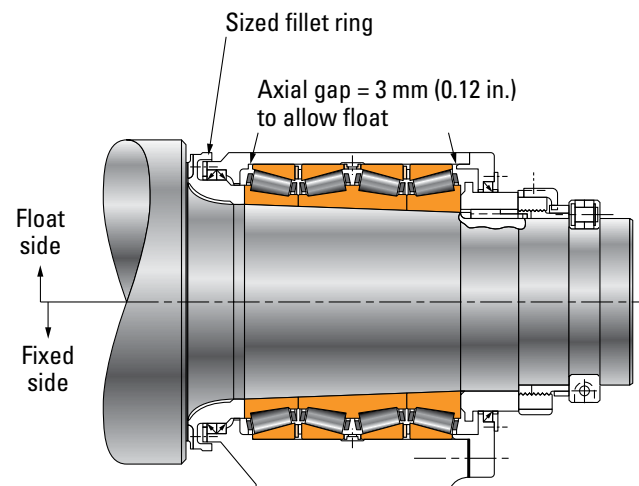

Fig. 88. TQITS bearing arrangement.
3. **Fixed and float positions:** The cups of the TQITS assembly are only clamped on the fixed position of the mill (normally the operator side). On the floating side (fig. 88), the cups are permitted to float axially in the chock bore. Suggested axial gap between cup faces and adjacent chock shoulder/cover face is 3 mm (0.120 in.) on each side. The float side is not only permitted to float through the cups within the chock bore, but also through the chocks in the mill housing's window. This arrangement permits free expansion and contraction of the roll caused by variation in roll temperatures.